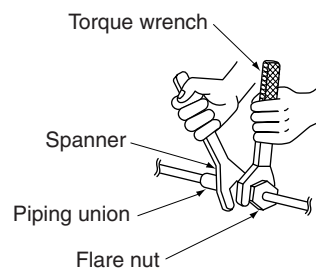

Fig. 8
- Be sure to use both a spanner and torque wrench together, as shown in the drawing, when connecting or disconnecting pipes to/from the unit. (Refer to Fig. 8)